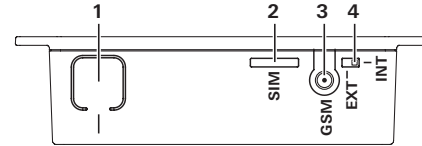

Figure 2 – Top view
- Press the button (Figure 2 – 1) on the Truma iNet Box for approx. 1 second.